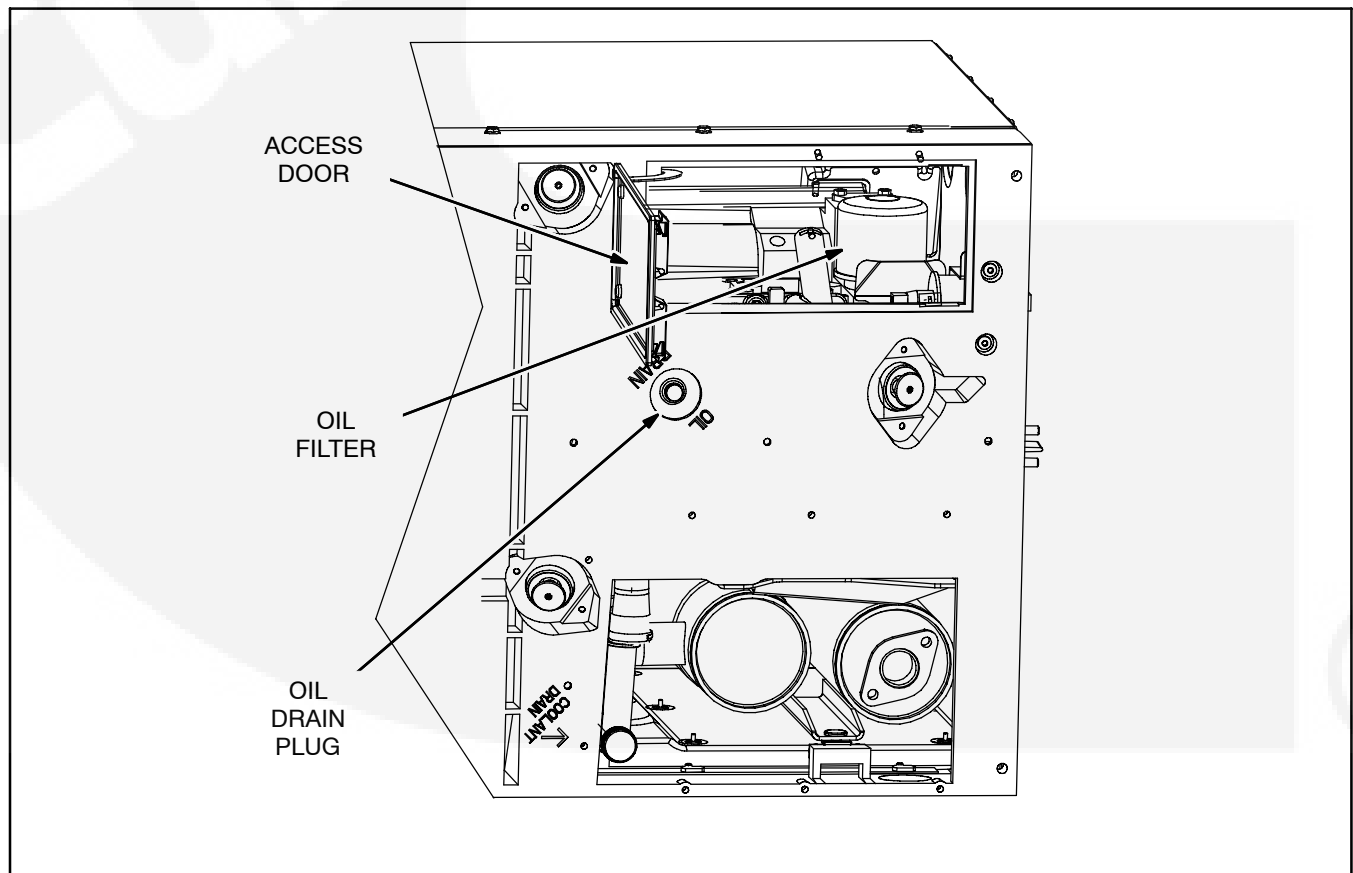

FIGURE 3-5. OIL DRAIN PLUG AND FILTER ACCESS FROM BOTTOM OF POWER UNIT
1. Place a pan under the oil drain plug (Figure 3-5), run the Power Unit until warm and shut it off.